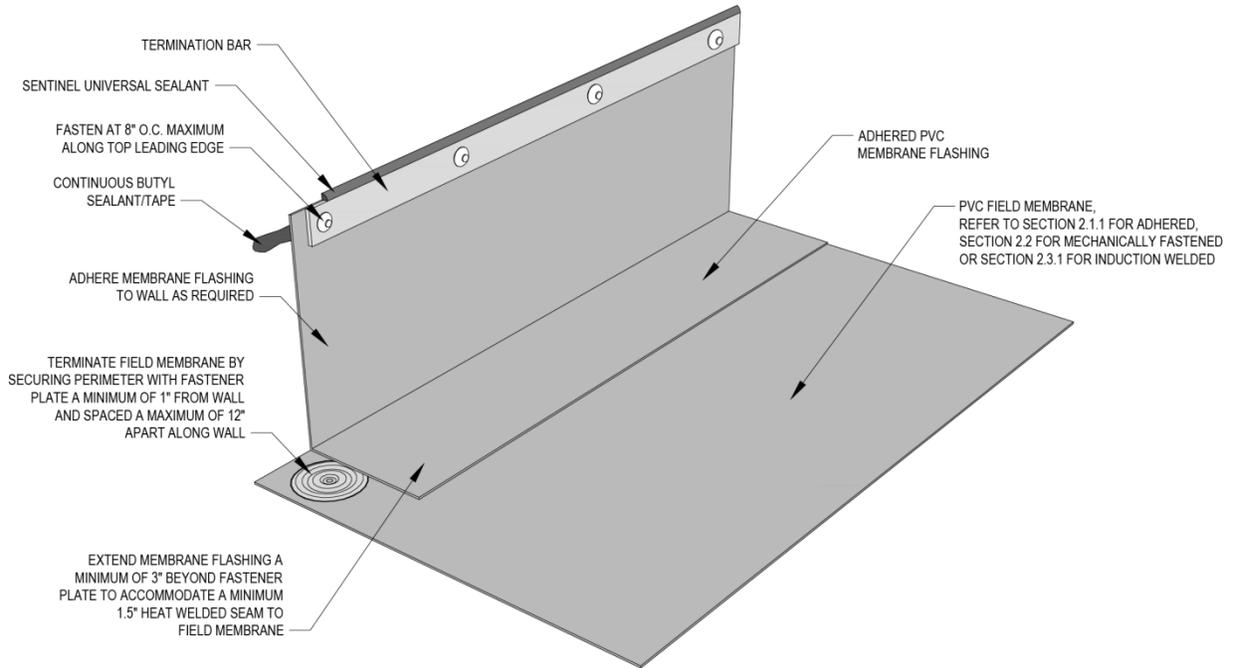

Figure 2.1.2a Adhered PVC Flashing Membrane at Wall/Curb With Horizontal Perimeter Fastening
- Install butyl water cutoff, fasten and seal the top leading edge to vertical surfaces. Refer to Figures 2.1.2a through 2.1.2c.